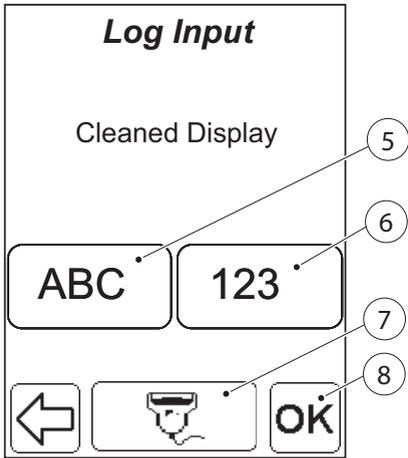

FIGURE 9-25
- a) Press the Scroll bar arrows (3) to select either a log note (2), or the Free Text option (1).
- b) Press the Add button (4)
- c) If a log note was selected, it will be added to the Analyzer Log and *FIGURE 9-4* will be displayed. If the Free Text option (1) was selected *FIGURE 9-25* will be displayed.